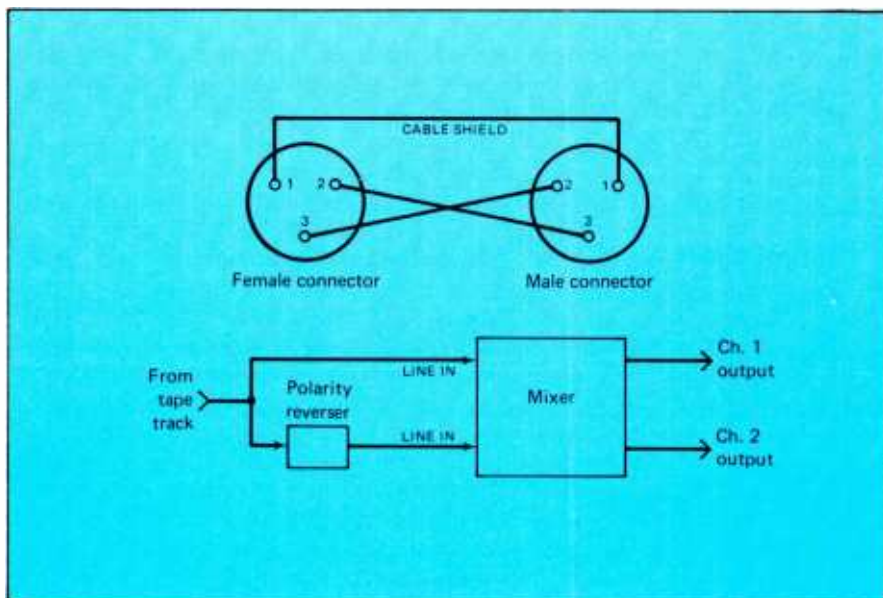

Figure 3. Using a polarity-reversing adapter to put a signal out of phase with itself on left and right channels.
- Try putting a signal out-of-phase with itself on the left and right channels. This requires studio equipment that has balanced lines. Make a polarity-reversing adapter as shown in *Figure 3*.